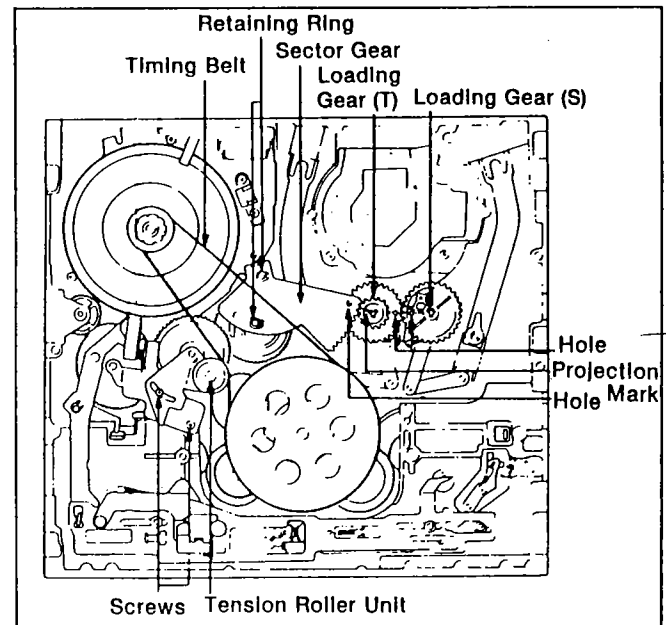

Figure M45
1. Set the P2 and P3 posts to fully unloaded position, then install the Loading Gear (T) and (S) so that the outer hole in the Loading Gear (T) aligns with the outer hole in the Loading Gear (S). (Figure M45)
2. Install the Sector Gear so that the outer hole in the Sector Gear aligns with the projection mark on Loading Gear (T). Then insert the retaining rings. (Figure M45)